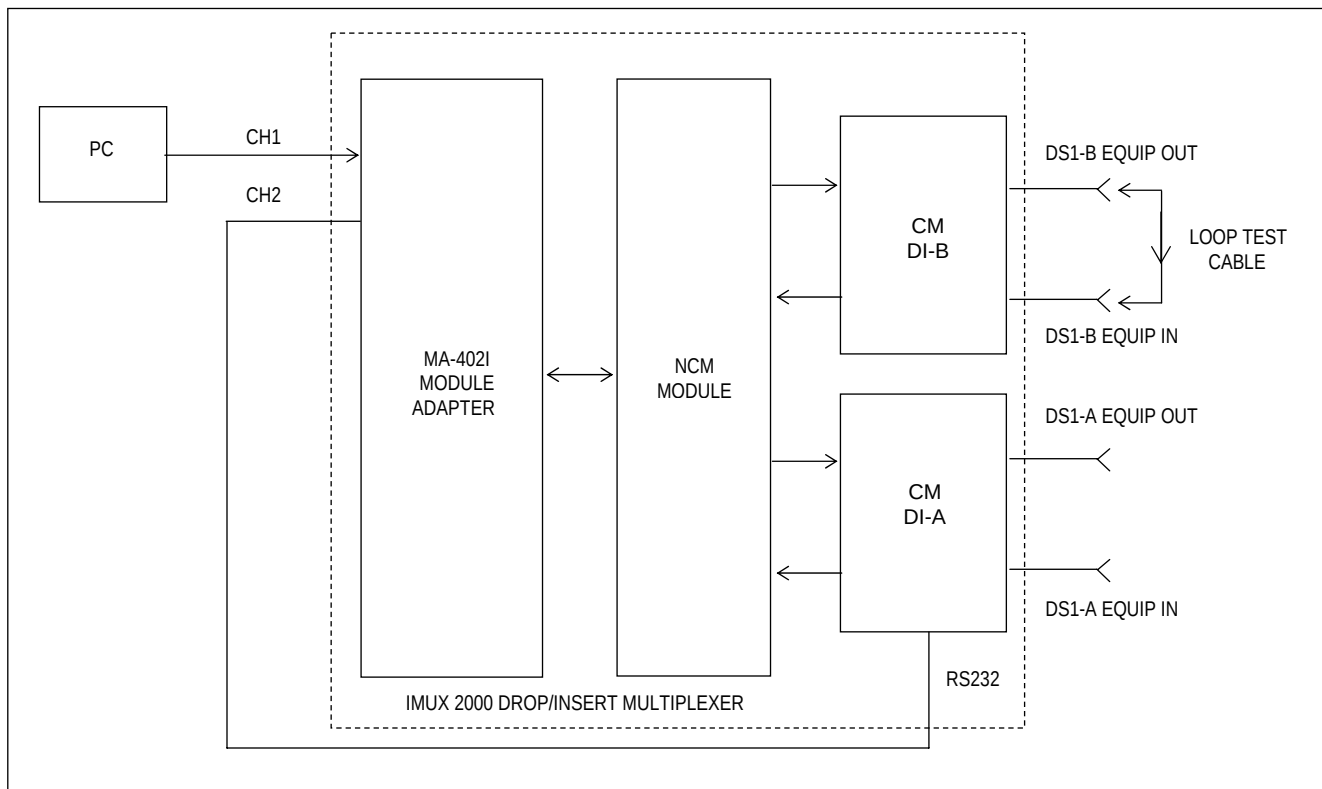

Figure 11. Simplified block diagram, loop test for RFL NCM module in NMS mode, installed in a DI-B configured multiplexer.
8. Connect the PC to the CH1 RS-232 connector using the male to female RS-232 connector. At this point, the equipment should be connected as shown in Figure 11. Run the RFL NMS communications software and set the parameters exactly the same as the CM and the NCM.